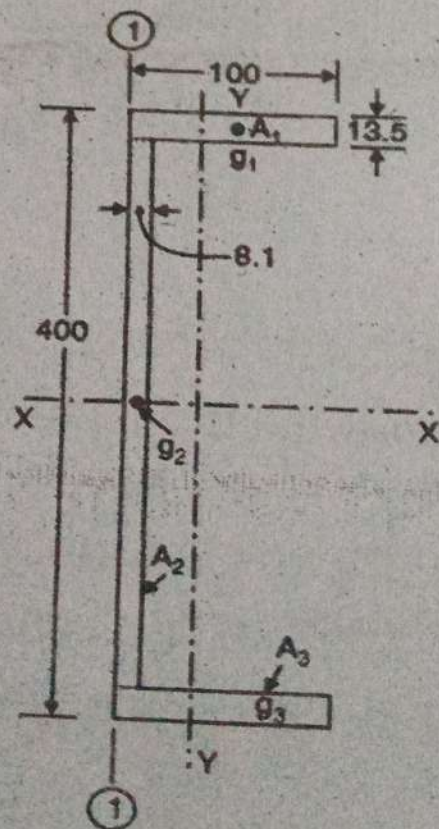

Fig. 9
6. Compute the second moment of area of the channel section shown in Fig. 9 about centroidal axis X-X and Y-Y.